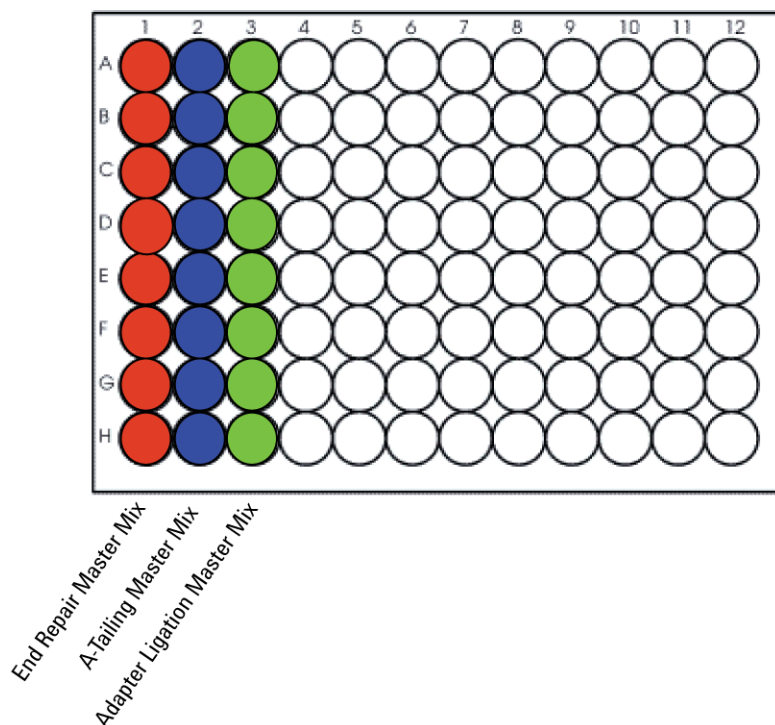

Figure 6 Configuration of the master mix source plate for LibraryPrep_XT_Illumina_v1.5.rst
- 6 In a Nunc DeepWell plate, prepare the master mix source plate containing the master mixes prepared in steps 3 to 5. Add the volumes indicated in Table 16 of each master mix to all wells of the indicated column of the Nunc DeepWell plate. Keep the master mixes on ice during the aliquoting steps. The final configuration of the master mix source plate is shown in Figure 6.